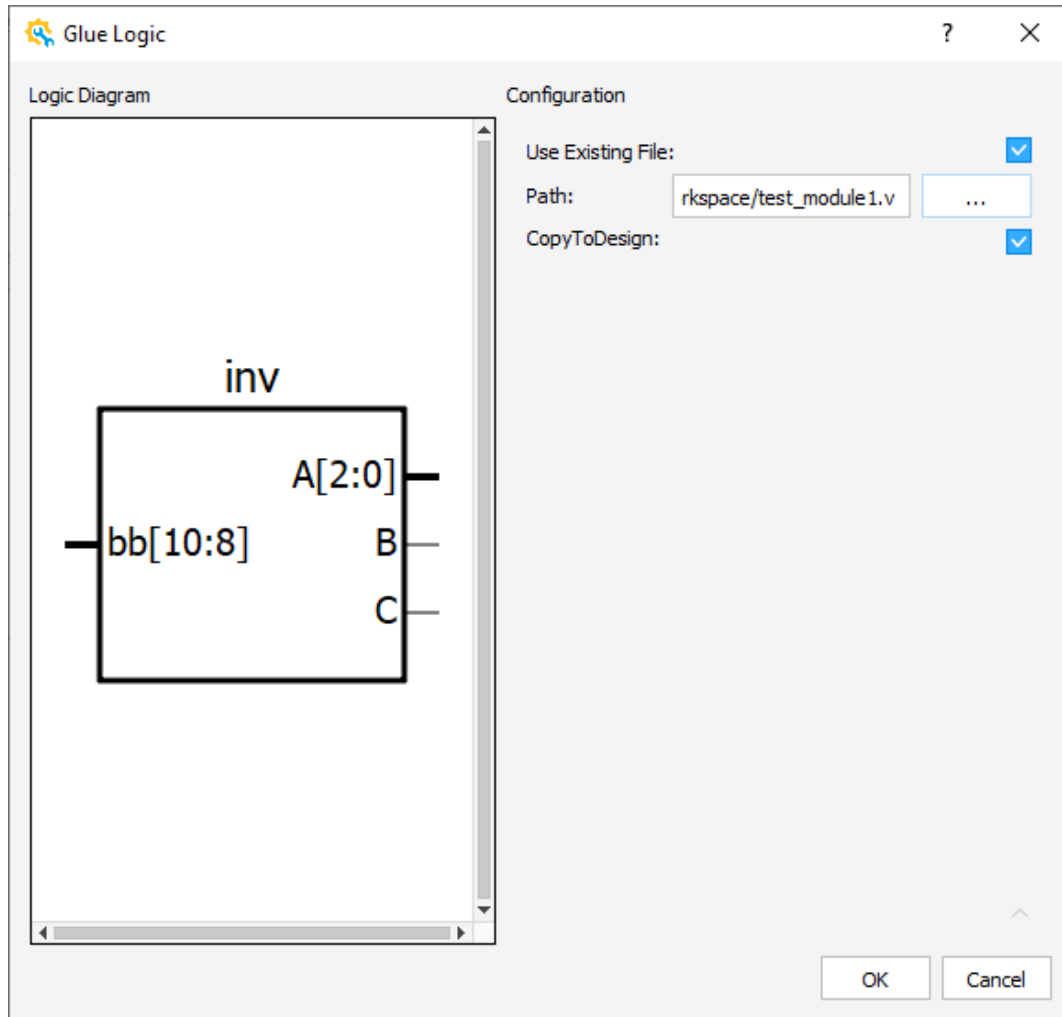

Figure 2.57. Existing RTL Module Configuration
3. Or, you can use an existing RTL module by checking the **Use Existing File** checkbox. After checking the Use Existing File checkbox (Figure 2.57), browse to find the existing RTL module file path from the **Path** field. If you use an existing file, RTL references that file from the source. If you do not use an existing file, RTL creates a new file called `<module name>.v`. If **CopyToDesign** is enabled, a copy of the original source is created in the Propel project under `<project>/lib/gluelogics/`, if not enabled, it is referenced from its current location.